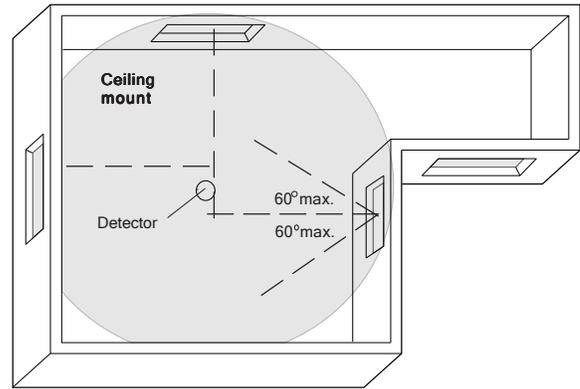

Figure 3. Multiple Window Coverage
- Mount the detector as close to where the lines intersect as possible. See Figure 3.
- Do not mount the detector at more than a 60 degree angle from the center of any window to be protected. See Figure 3.